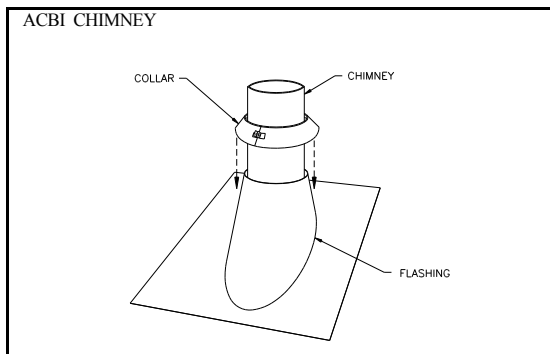

Figure 29
5. Then, put the roof flashing in place and seal the joint between the roof and the flashing with roofing pitch. (See figures 29 & 30). For sloping roofs, place the flashing under the upper shingles and on top of the lower shingles. Nail the flashing to the roof, using roofing nails.